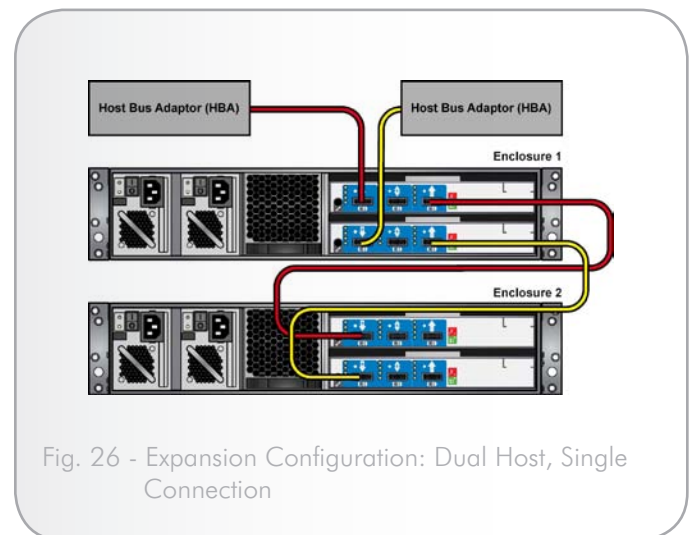

Fig. 26 - Expansion Configuration: Dual Host, Single Connection
- ◆ Dual Host, Single Connection, shown in Fig. 26